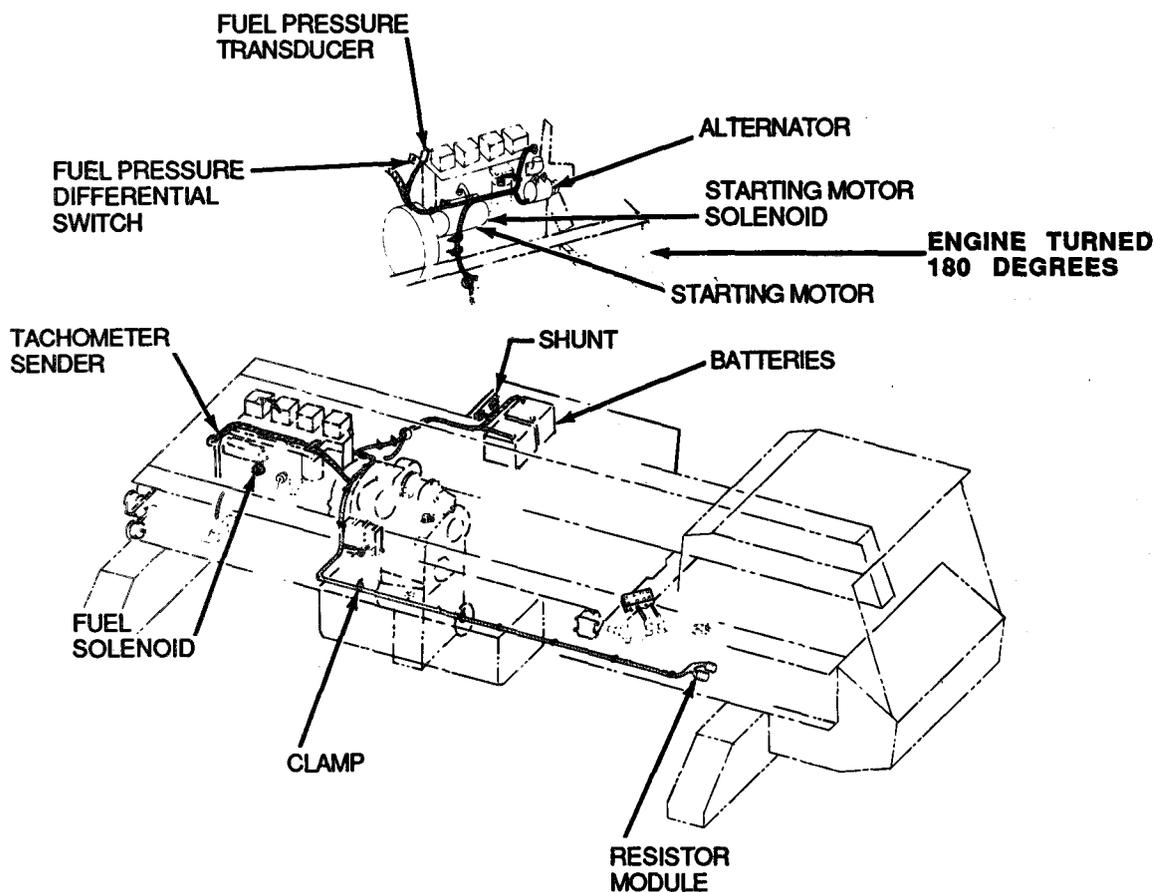

Figure 10-1
3. Disconnect main STE/ICE harness (Figure 10-1) horn resistor module, tachometer sender, fuel pressure transducer, alternator, starting motor solenoid, fuel differential pressure switch, shunt, batteries, starting motor and fuel solenoid.